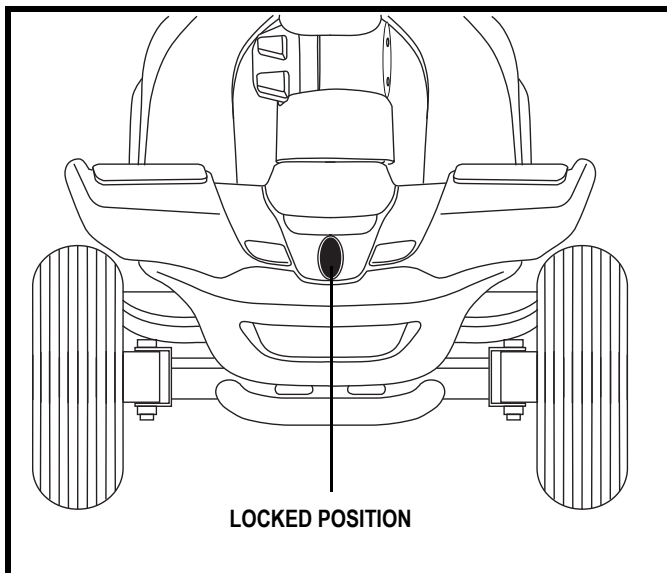

Figure 22. Tiller Lock Knob (Locked)
2. Lock the tiller in the straight ahead position by pushing the tiller lock knob in and turning it clockwise 90°. See figure 22. The front wheel must face forward in order to lock the tiller.